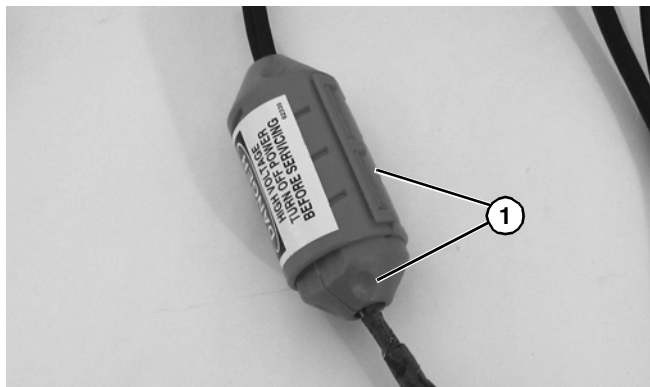

Figure 9
1. Twist covers (**Figure 9, item 1**) apart.